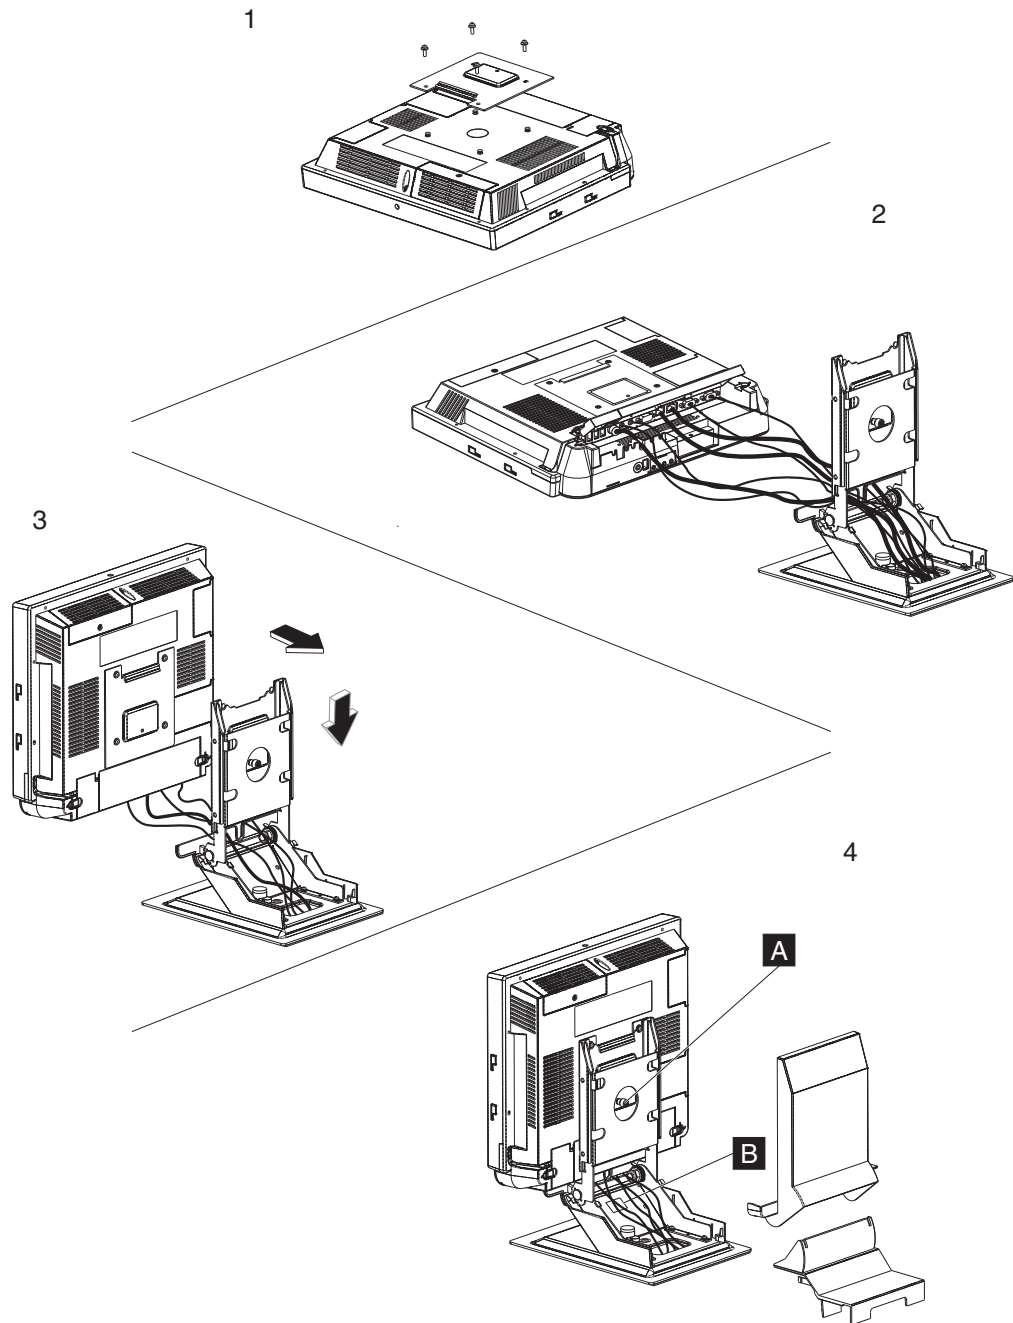

Figure 13. Installing tabletop mount
1. Attach the VESA adapter plate to the unit with the four screws that are provided. See picture 1 in Figure 13.
2. Tilt the upper portion of the mount so that it is 90 degrees (perpendicular) to the base of the mount. See picture 2 in Figure 13.
6. See picture 3 in Figure 13 on page 18. Close the cable cover and latch the quarter-turn latches on the cable covers.
8. Hook the unit onto the tabletop mount and tighten the mount thumb screw (**A** in picture 4 in Figure 13 on page 18) to secure the unit to the mount.
10. Retain the AC adapter cable with the cable harness located on the tabletop mount (**B** in Figure 13 on page 18).